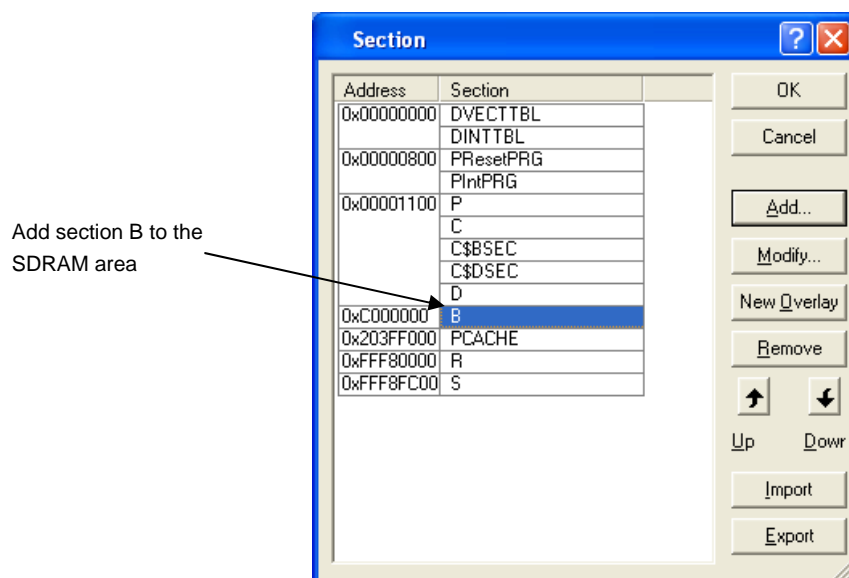

Figure 5.3.18 Change Section (2/2)
(2) In [Section] dialog box, add section B to the SDRAM area as shown in Figure 5.3.18.